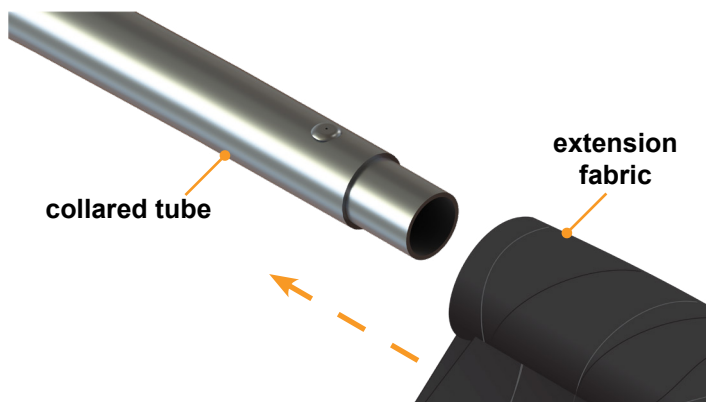

Fig.6
11. Separate the two halves of the tube then slip the front pocket of the extension fabric over the collared tube (Fig.6).